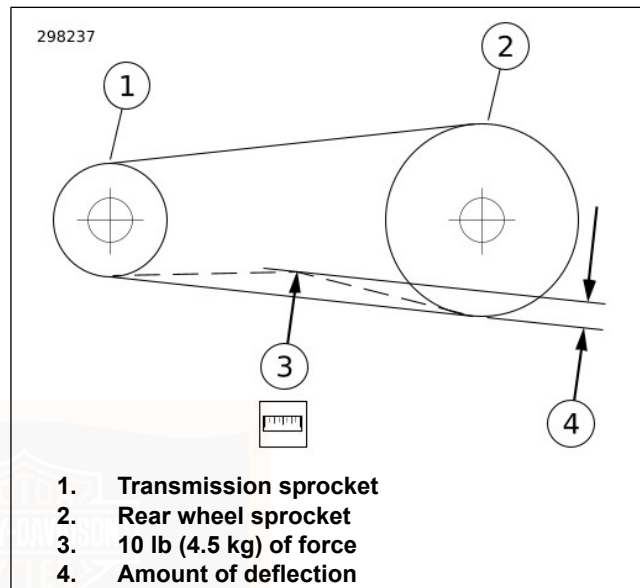

Figure 59. Checking Belt Deflection
- b. **All other models:** See Figure 59. Measure amount of deflection (4) while holding gauge steady.